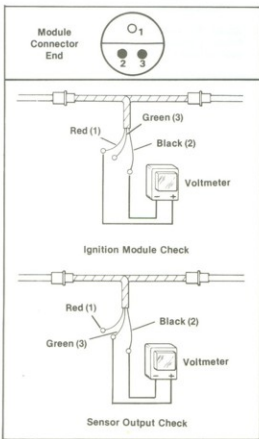

Figure 8-8. Ignition Test Adapter
8. See Figure 8-8. Disconnect sensor plate from ignition module at connector. Connect Ignition Test Adapter Part No. HD-94465-81 between the two halves of the connector. There are three test leads that extend from the adapter, one green, one black and one red. Connect a voltmeter between the red lead and the black lead. With the ignition and engine stop switches on, the voltmeter should read $5.0 \pm .5$ volts. If not, the computer module is defective and must be replaced.
9. After replacing the module reconnect the sensor plate using the test adapter (Figure 8-8). Recheck voltage from the red lead to the black lead. Connect the voltmeter from the green lead to the black lead to check sensor output. This output should be $5.0 \pm .5$ volts when the slot is not present at the sensor and should be 0 to 1 volt when the slot is at the sensor. A screwdriver blade can be inserted between the sensor and magnet as a substitute for the rotor to check the sensor output. If these voltages are not present, the sensor plate must be replaced.